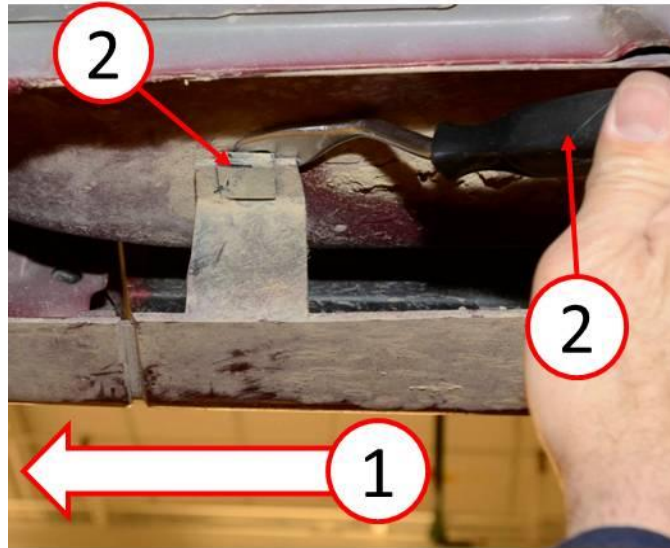
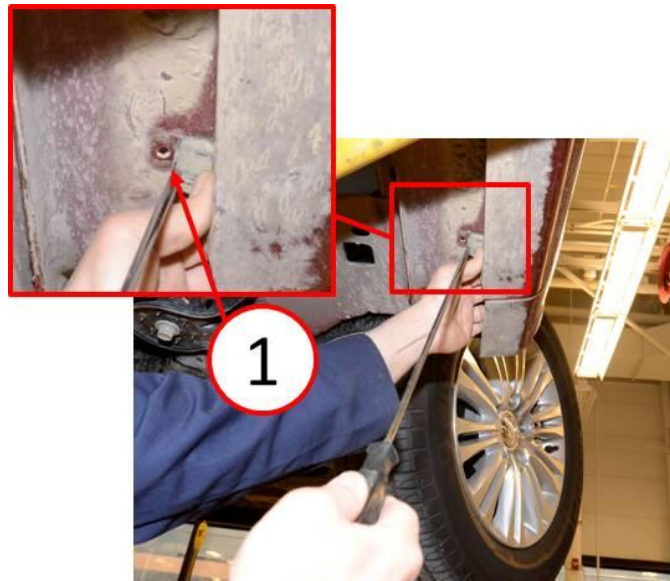

Fig. 3 Right Rear Sill Cladding
Fig. 4 Mounting Hole
4. Remove the front rear sill cladding clip on the left and right side (Fig. 3). Position the rear sill cladding to access the mounting hole (Fig. 4).